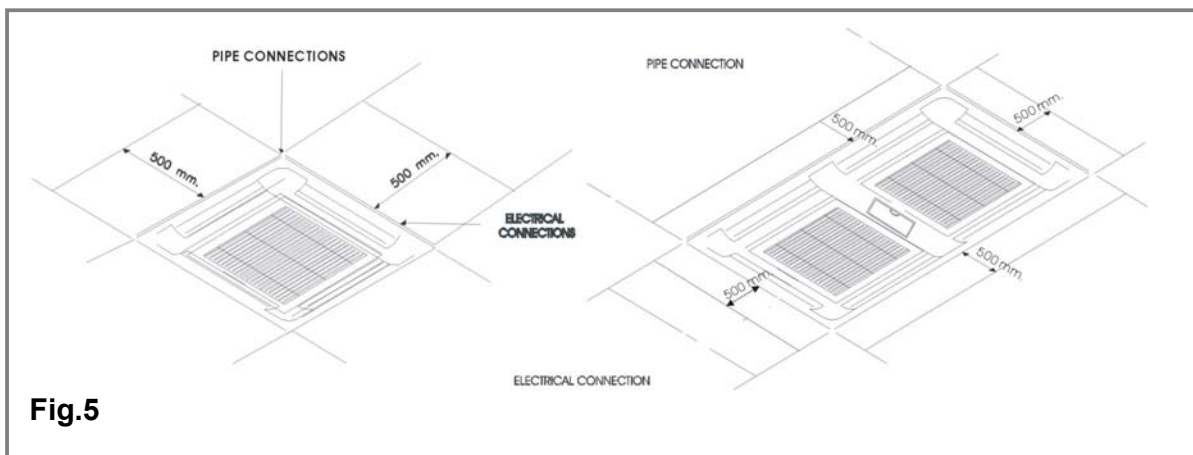

Fig.5
5. Ensure there is sufficient space around the unit to service it. See Fig.5